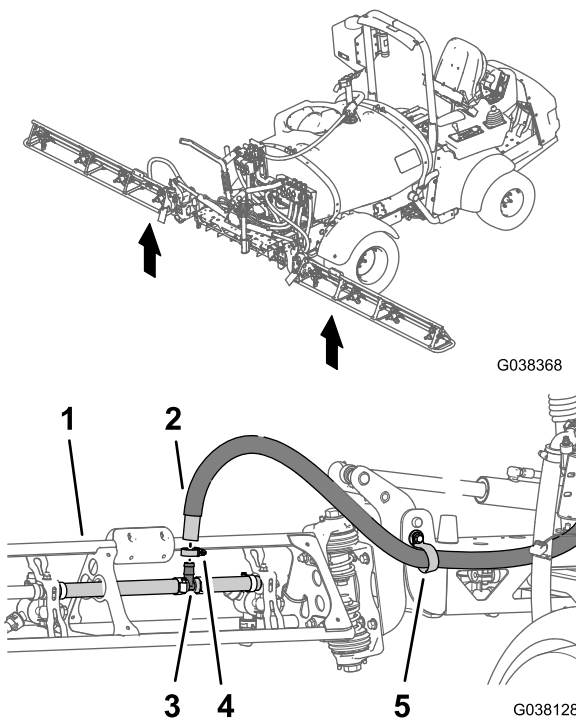

Figure 82
3. Route the right boom-supply hose through the support clamp at the end of the center-boom section (Figure 82).
4. Assemble the right boom-supply hose onto the T-fitting at the right-boom section (Figure 82).